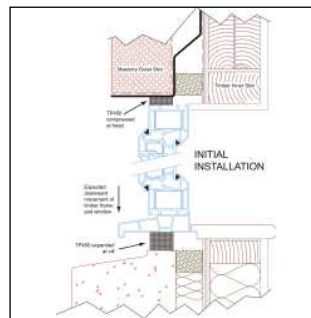

Fig 1 Location of TP450 Compriband Timber Max at initial installation
- Before installation, measure the width of the joint and ensure the total movement, after any settlement, is within the capacity of the selected tape size (Fig 1 & 2).